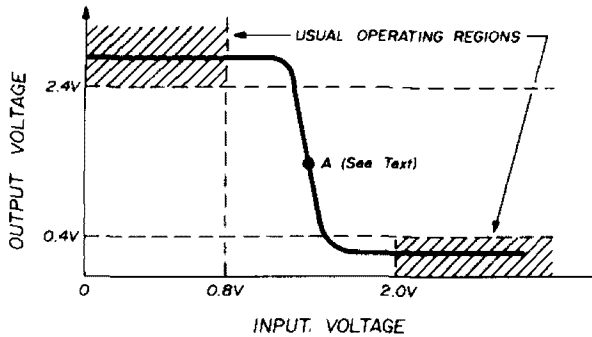

fig. 2. Transfer characteristics of the TTL NAND gate.
Having found a cheap, sure-fire local oscillator, A TTL-compatible mixer was required to provide the appropriate double-sideband signal. For this purpose nothing more complicated than a single NAND gate was found to be necessary. Two square waves, f_1 and f_2 , when applied to the separate inputs of a NAND gate, yield outputs of $f_1 + f_2$ and $f_1 - f_2$. Hence the gate is performing the function of a *product modulator*. If, however, one input to the gate is biased at the point (A) on the transfer characteristic shown in fig. 2, then a small signal applied to that input will be amplified linearly (see reference 2), and